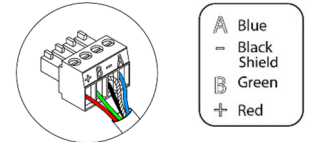

Fig. 29
It has a 4-pin terminal to connect the thermostat ④. Attach the wires with the terminal screws following the color code (Fig. 29).